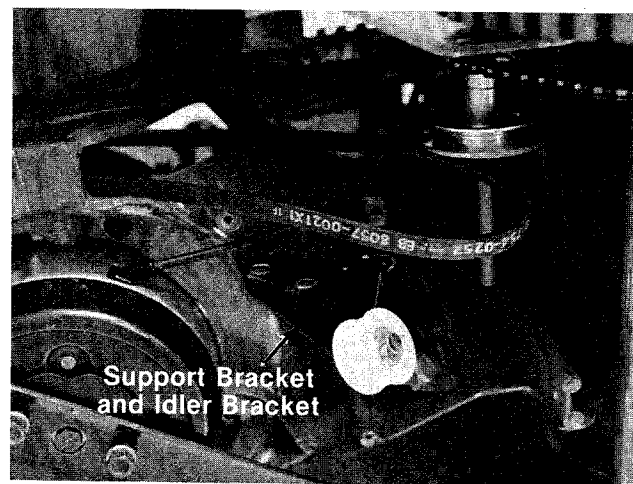

FIGURE 23.
9. Remove belt as shown in figure 23. Reassemble in reverse order with new belt.